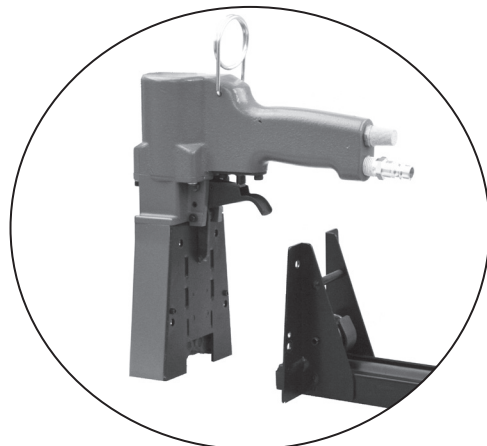

Fig. 10
- Remove magazine and the defective staple (Fig 10).